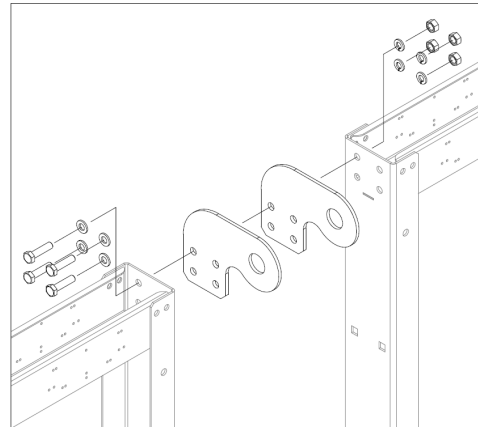

Figure 9
- 4 from the top lifting brackets. Refer to **Figure 9**.